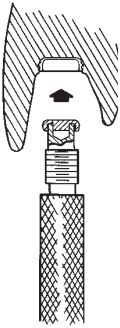
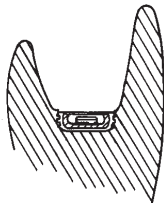

Fig. 7
Fig. 8
- The Locator Male Seating Tool (attached to the Locator Core Tool, Zest order No. 8393) is used to firmly push a Locator Replacement Male into the empty metal denture cap. (Fig. 7) The replacement male must seat securely into place, level with the rim of the cap. (Fig. 8) Selection of the nylon replacement male (clear, pink or blue) depends on the appropriate patient's requirement for retention. NOTE: Use of multiple Locator attachments (3 or more) in the same dental arch may require use of the 3.0 lbs. (light retention) pink colored Replacement Male No. 8527 or 1.5 lbs. (extra light retention) blue colored Replacement Male No. 8529, for easier removal of the prosthesis by the patient.